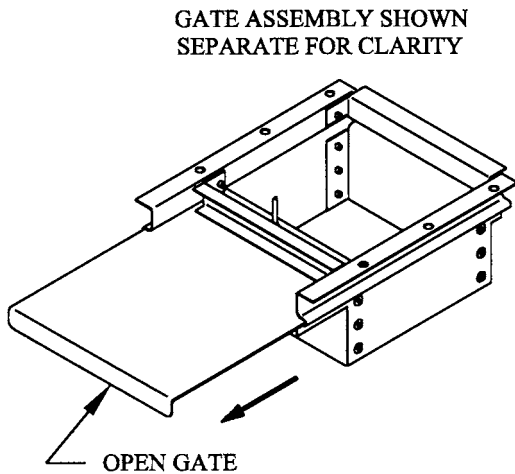

FIG. 5
STEP 5. Open the gate so that the feed can fall down into the feed line. See Fig. 5.